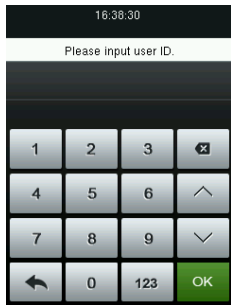

figure 3
1. In initial interface, press  to enter the user ID Input interface, shown as **figure 3**.